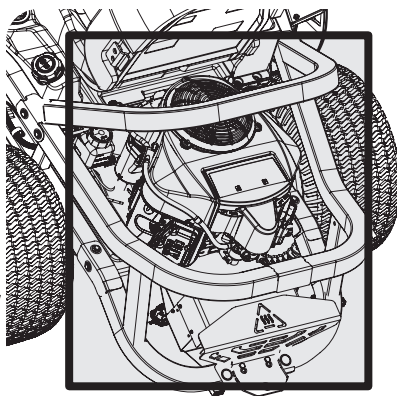

Figure 35
- Keep both sides of transmission cooling slots, exhaust manifold, around fuses, all wiring and harnesses, muffler pipe, muffler shield, engine intake screens and cooling fins, etc. clear of grass clippings and leaves. See Figure 35.